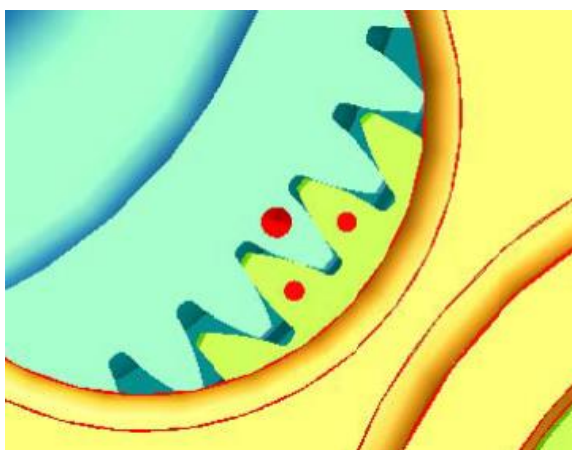

Fig. 4-58 Fuel injection pump gear marks
- (1) Install fuel injection pump flange, apply a small amount of lubricating oil on pump rubber ring;
- (2) Screw on the hexagon bolts to connect fuel injection pump and the flange;
- (3) Install injection pump gears, specification of fuel injection pump gear lock nut is $M24 \times 1.5$, tighten the nut to 250~300Nm directly;
- (4) Install the three pump fixing studs on engine block;
- (5) Rotate the flywheel until cylinder 1 reaches compression TDC, at this point rotate injection pump gears until the mark on injection pump gear module is aligned to mark on injection pump flange, install injection pump module. Insert a $\Phi 4$ pin into the corresponding hole on middle flange and pump gear, pull out the pin after fastening common rail module, and seal the hole up with M5 screw (applied with sealant). After the assembly, the mark on driving gear of injection pump should be aligned to mark on driven gear. As shown in Fig. 4-58. Tighten the hexagon nuts to fasten the injection pump on gear housing.